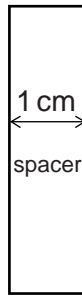

Fig. 2.2
4. The spacer may be made from a piece of card cut to 1 cm width. The width should be marked as shown in Fig. 2.2.